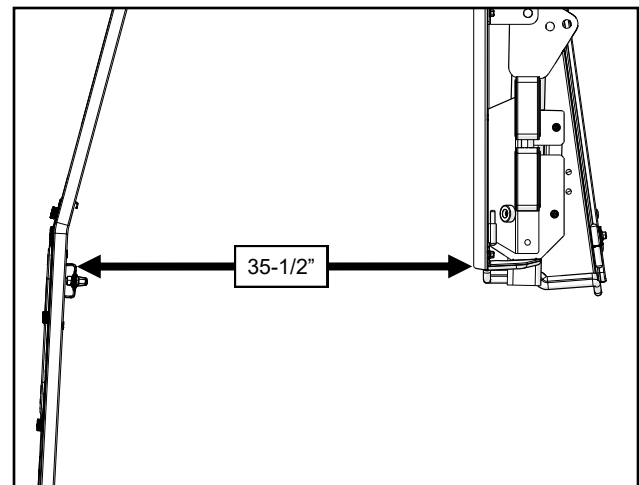

Fig. 9.2 (Align A-Pillar and Rear Legs)
- 9.2** Measure the distance from the striker bracket to the front edge of the rear legs as shown in figure 9.2. Adjust the A-pillars, rear legs, and ROPS brackets to get as close to 35-1/2" as possible.